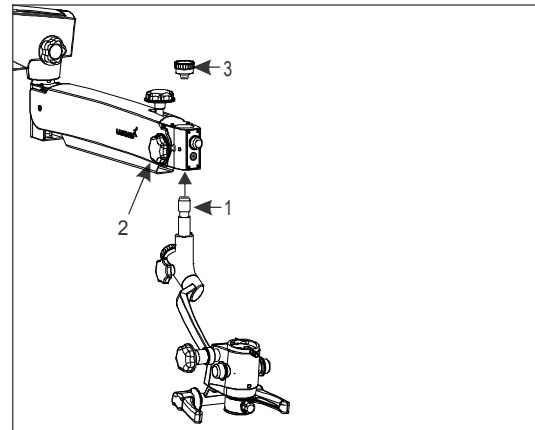

Fig. 4
7.4 Retrieve the inclined coupling assembly from the packing and follow as below refer Fig. 4.
- Install the coupling to the suspension arm by sliding the guiding shaft (1) to the suspension arm.
- Lock the inclined coupling with the threaded plug (3).